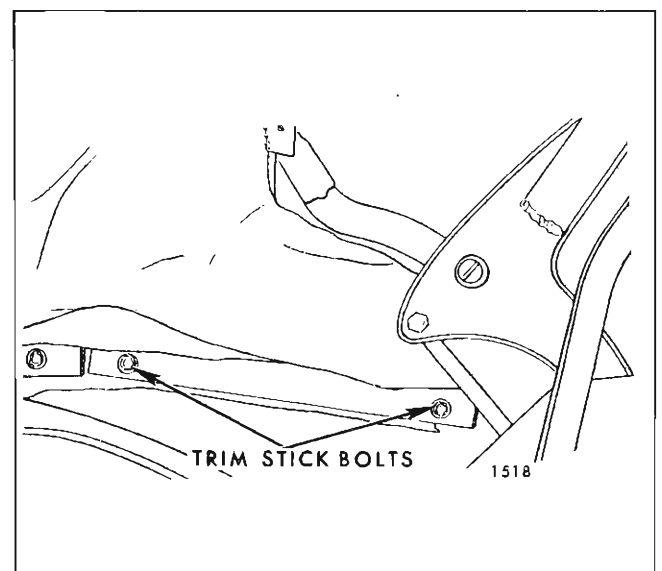

Fig. 5-I-5—Rear Quarter Trim Stick
14. At each rear quarter area, remove attaching bolts securing rear quarter trim stick assembly to rear quarter inner panel. (Fig. 5I5).
16. To establish relationship of right and left inner vertical edge of old top material to back curtain assembly at rear trim stick location, mark back curtain vinyl at both locations with a grease pencil. (Fig. 5I6). Reference marks should be transferred to new back curtain when step 7 of installation procedure is performed.